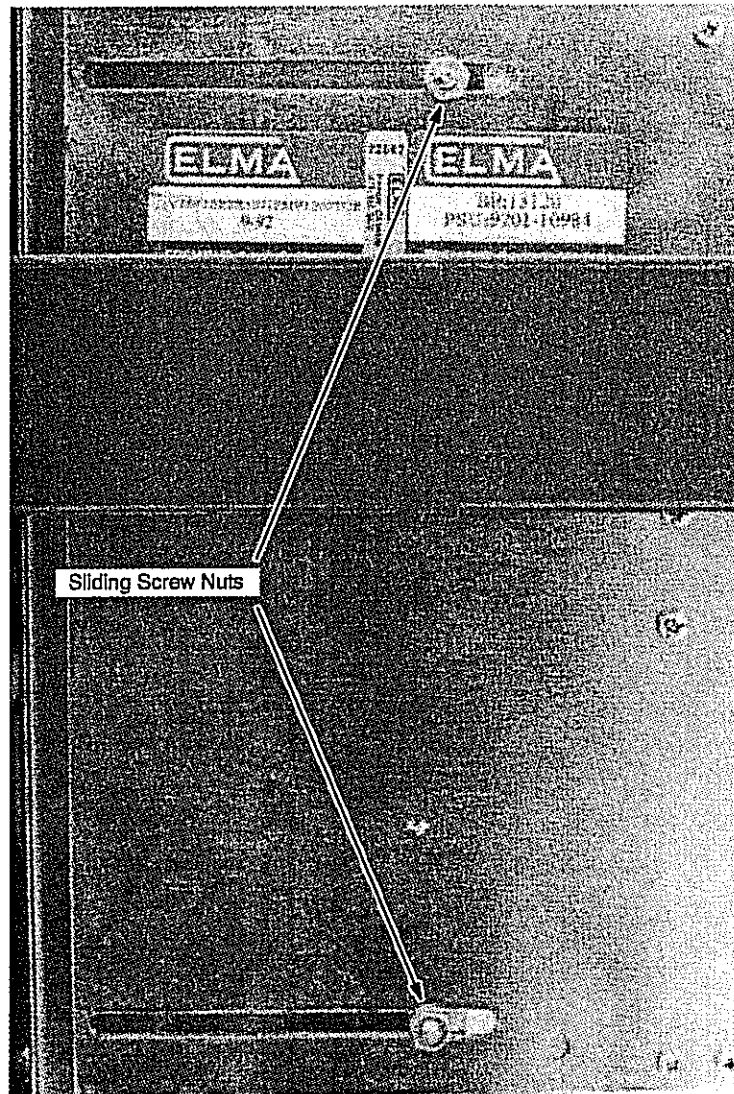

Figure 7-15. VME Power Supply Drawer
10. Loosen, but do not remove, the four nuts (two on each side) that secure the power supplies. Refer to Figure 7-15.